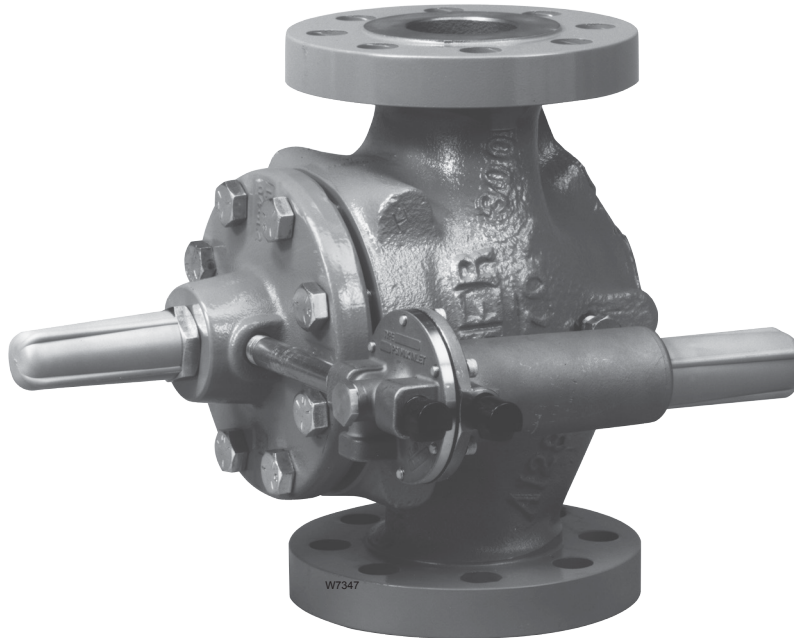

Figure 1. Type EZR Relief Valve or Backpressure Regulator
3. Figure 1 shows the standard mounting position. Rotate the bonnet (key 2, Figure 9) or the pilot (Figure 14, 15 or 16) for other mounting positions.